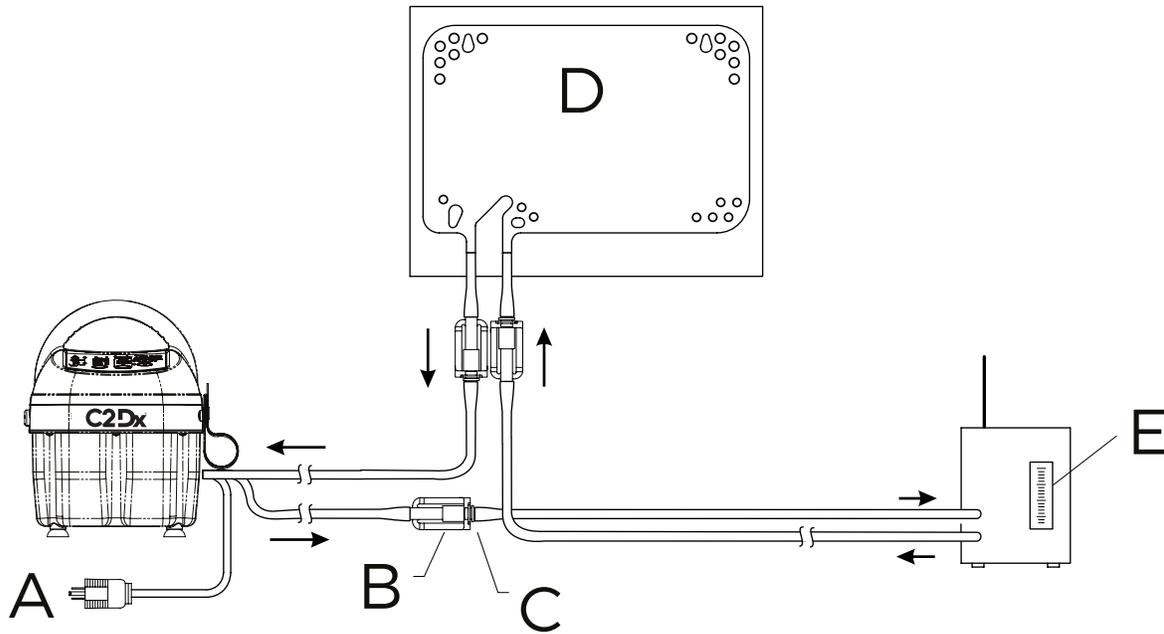

Figure 1: Functional check setup for **Clik-Tite®** connectors
1. Plug into a properly grounded outlet (A) (Figure 1 on page 16).
2. Fitting and tube closest to the front of the **T/Pump®** Temperature Therapy Pump (B).
3. Male **Clik-Tite®** connectors (black O-ring) (C).
4. **Mul-T-Pad®** Temperature Therapy Pad, size 18" or 22": lay the pad flat and at the same level as the pump (D).
5. **TPT9**, 7 gph (26.5 lph) minimum. Read at top of the float (E).